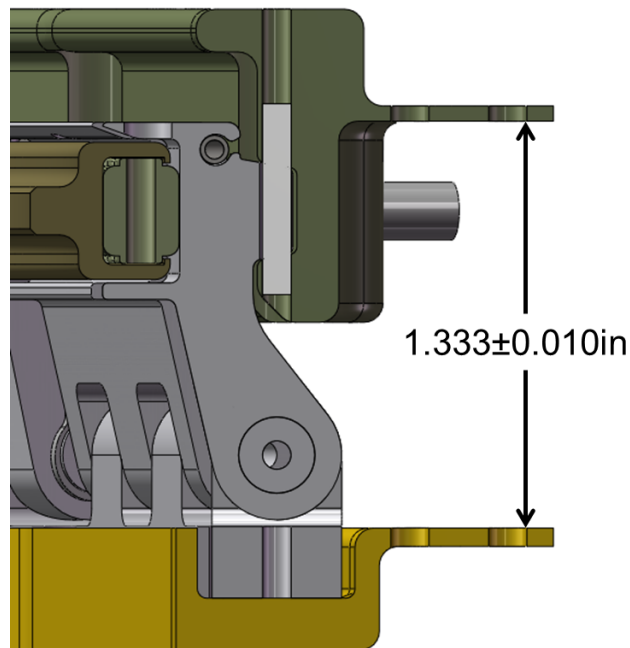

Figure 18: Verifying Lightband pre-stow height.
7.1.10	Once the minimum force has been applied to the Lightband it is necessary to verify that the Lightband is properly compressed. Figure 18 shows a cross section of the stowed Lightband. Verify the pre-stow height (distance between flanges) in at least 4 places around the Lightband is 1.333 ± 0.010 in. If any measurement is not within specification verify proper alignment and compressive force. Increase force as necessary from previous step until Lightband is properly compressed. Do not exceed the maximum force calculated in Step 7.1.9.